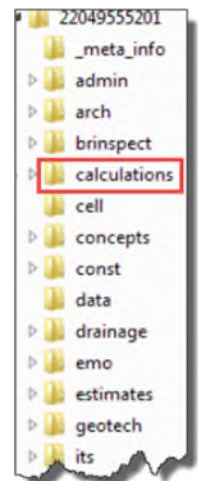

Figure 1 -
- (1) Ensure all revised **Plan Summary Boxes** are included in the **Final As-Built Plans** per **CPAM 5.12**.
- (2) Ensure all **Plan Summary Boxes** are updated with all additions, deletions, and changes to reflect the actual conditions of the project~~final quantities and any changes made during construction~~ within 30 days of pay item closeout per **CPAM 5.12.8**. Place a red check mark in the final quantities column when there are no changes to the contract quantity. Enter the final quantity when the contract quantity differs from the final quantity.
- (3) Use red font color for any markups.
- (4) Reference all back-up documentation by EDMS number in the Remarks column.
- ~~(5)~~ Use the Excel spreadsheets included in the **CADD_[FPID].zip** or **BIM [FPID].zip file**, in the **Calculations** directory (see Figure 1) to add a new **Plan Summary Box** to the **Final As-Built Plans**. Refer to the CADD Manual.